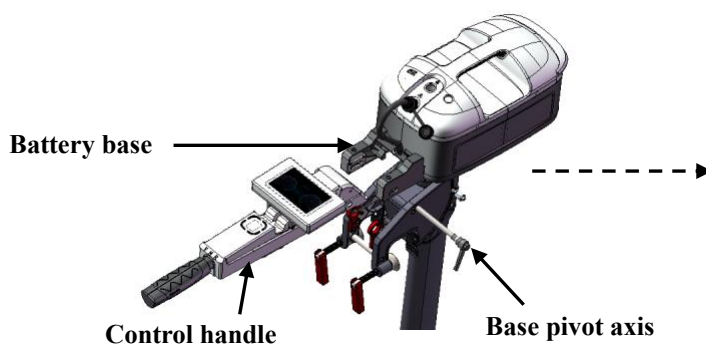
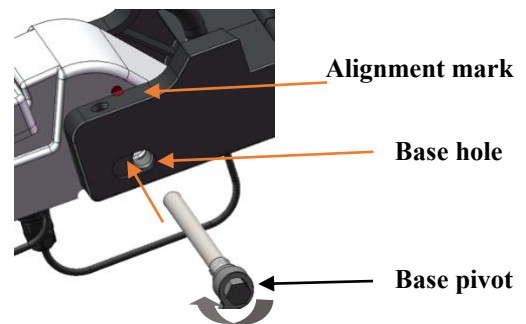

Figure 2-5
Figure 2-6
1. Insert the front part of the **control handle** into the middle of the **Battery base**, as shown in Figure 2-5, aligning the **alignment mark**, the red part in Figure 2-6. Insert the **base pivot axis**